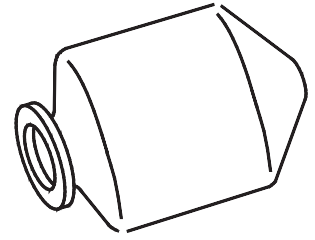

Figure 19 – Force all Air Out of Bladder
- a. Place bladder on clean surface with opening to one end and flatten to force air out. Pull ends out flat (see Figure 19).